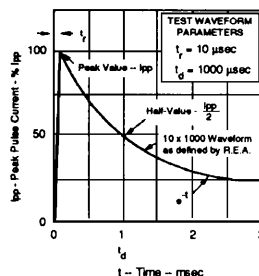

Figure 2 - Pulse Waveform
- I_{pp} Peak Pulse Current - (see Fig 2).